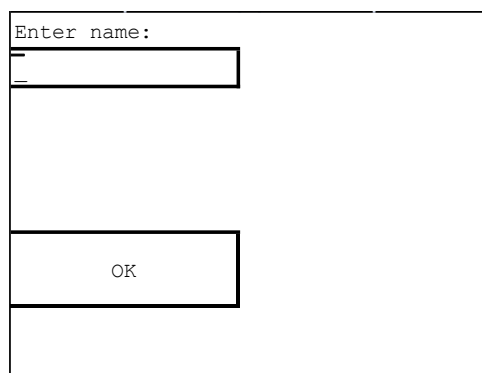

Fig.18
1. press the encoder knob to enable the insertion of the name for the program (see fig.18);